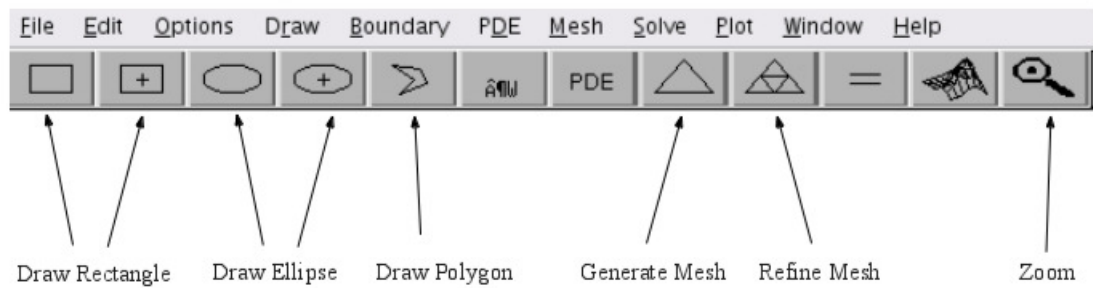
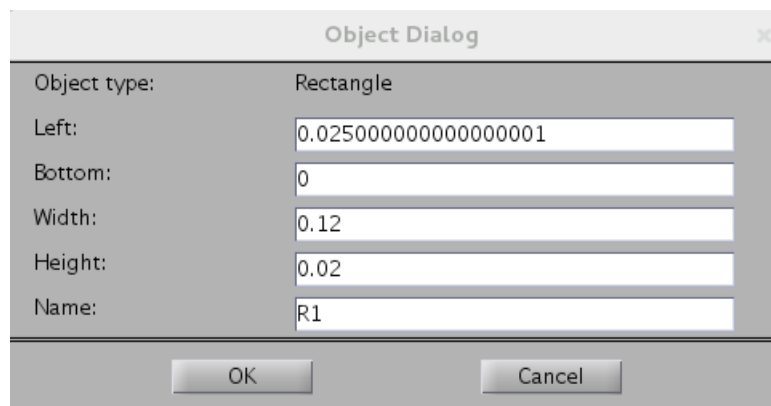

Figure 4: Basic tools for drawing in PDEtool.
Figure 5: Rectangle object dialog.
A step by step tutorial of how to use some of the basic features of PDEtool are provided here. Before starting to draw it is often convenient to activate grid and change the axis scales. This is done using <Options> menu. To build our geometry simple geometries are added one by one. The basic shapes used in PDEtool are rectangles, ellipses and polygons. Basic drawing tools can be found on the toolbar (see figure 4, note polygons are not necessary to create the geometry for the lab).
**Draw a rectangle:** Create a rectangle by using the rectangle tool (see figure 4) and simply hold left mouse button and move the mouse cursor to obtain the desired size. To adjust the size and position double click on the rectangle and a dialog will appear where coordinates and dimensions can be provided, see figure 5.
**Draw an ellipse:** Create a ellipse by using the draw ellipse tool (see figure 4) and simply hold left mouse button and move the mouse cursor to obtain the desired size. Double click to adjust position and size in similar fashion as for rectangles.
To generate a mesh simply press mesh tool when the geometry seen in boundary mode is satisfactory (see figure 4). To refine the mesh, i.e. create more elements, press refine mesh until enough elements are generated (remember that finer mesh means higher computational cost but better accuracy). Note that a high number of elements increases the computational time.